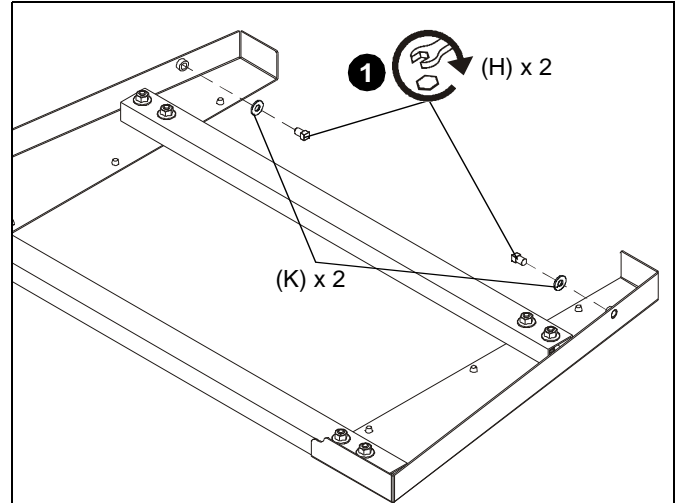

Figure 2
1. Partially install two 5/16-18 x 1/2" square head cap screws (H) and two 1/4" flat washers (K) into side holes on wedge plates. DO NOT TIGHTEN! (See Figure 2)